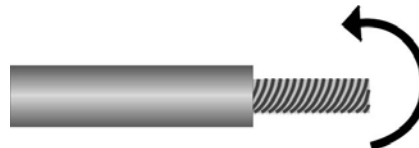

Figure 57. Wrapping the Wire Strands
4. Tightly wrap the wire strands with your finger tips. Refer to Figure 57.